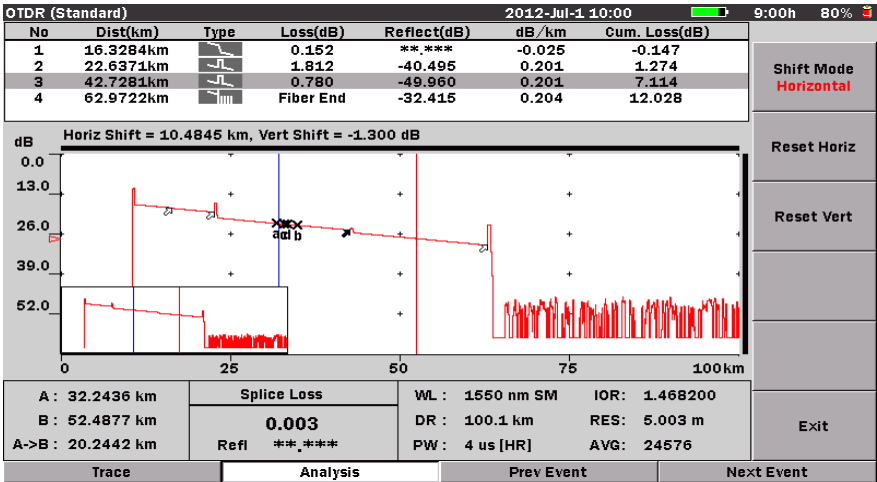

Figure 4-27: Shift Mode
- 4. Turn the **Rotary knob** to shift the trace along the chosen axis. The offset values of the shift are displayed above the trace graph. See Figure 4-27.